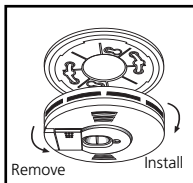

FIGURE 7
4. Install the alarm on the mounting plate and rotate the alarm in the direction indicated by the "ON" arrow on the cover until the alarm ratchets into place (this ratcheting function allows for aesthetic alignment). NOTE: The alarm will mount to the bracket in 4 positions (every 90 degrees). When wall mounting, make sure the battery box is at the bottom of the unit. (see Figure 7)